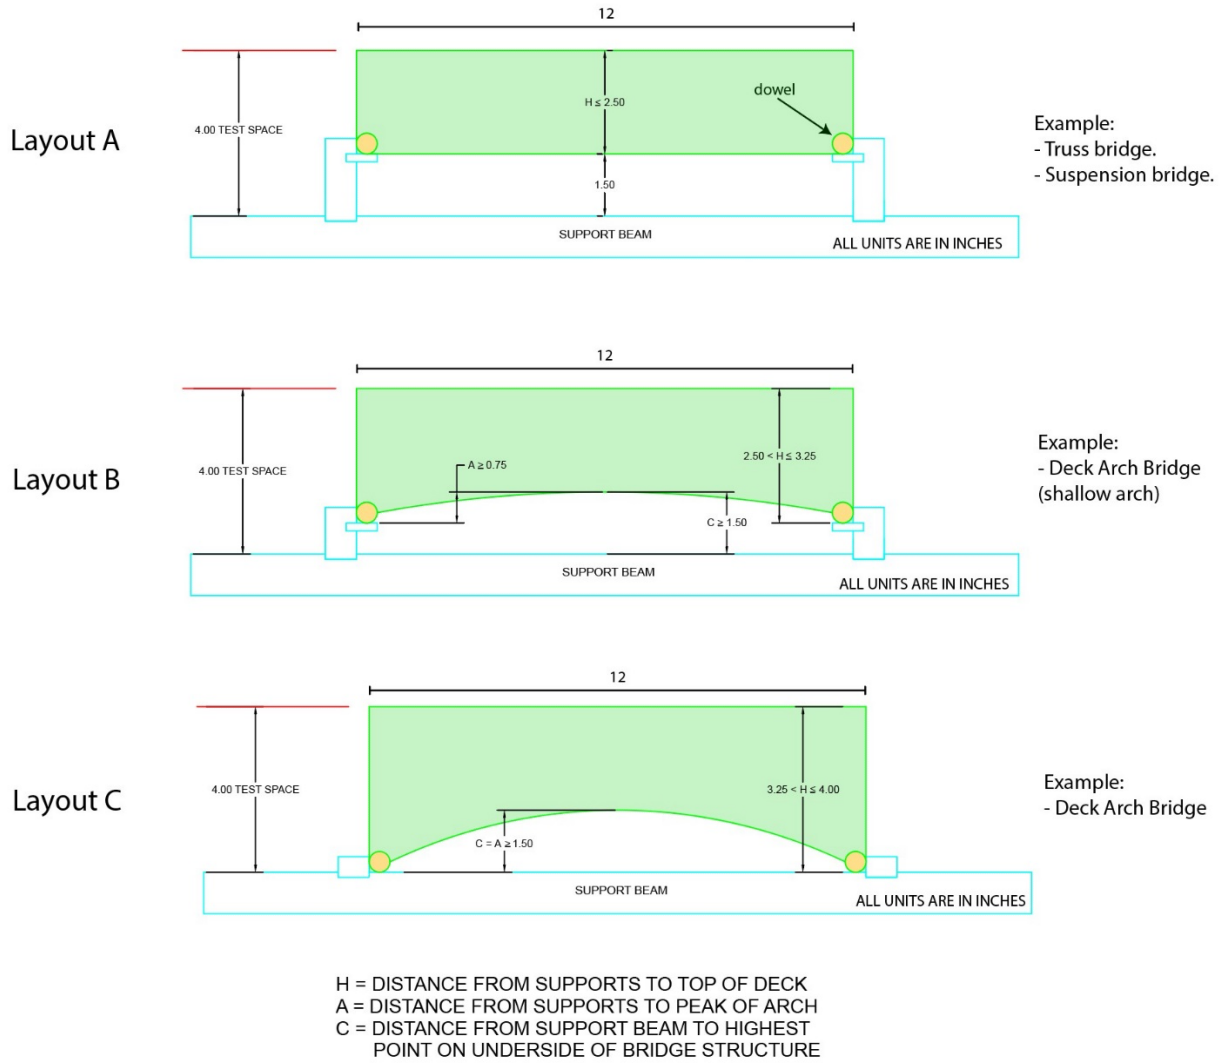

Figure 1 Bridge different layouts (choose one)
1. **Geometric**: Your bridge is required to **span 12”** and have a **maximum width of 3”**. Your bridge will be tested using one of the three layouts depicted in **Figure 1**, where the entire bridge (apart from the anchor cables) needs to be situated within the green shaded area. Regardless of the chosen design, your bridge **total depth (distance from lowest point to highest point) cannot exceed 4”**, and the bridge must be situated at least **1.5” above the support beam at the midspan**. There must be a “vehicular” clearance envelope along the entire length of the deck for two directions of traffic, each 1 in x 1 in. Please consult with your AI if you have any questions about design constraints.
**Supports:** Your bridge must be connected to 4" dowels (provided), which will be placed against abutments (see **Figure 1**). For suspension bridges, cables can be anchored to support beam through the drilled-holes 4" from the abutments.